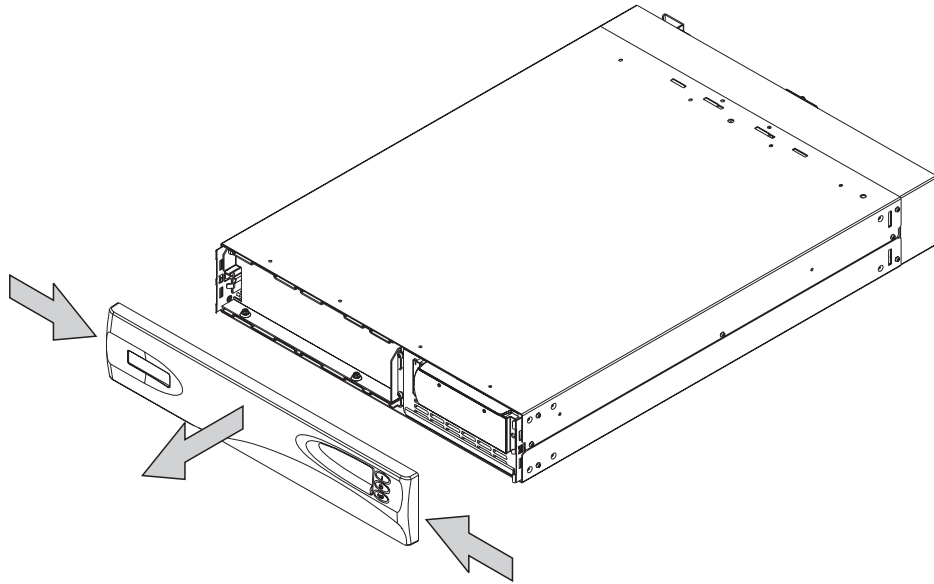

Figure 301. Removing the front panel of the 2145 uninterruptible power supply
3. Remove the front panel by pressing the sides inward and pulling both ends towards you, as shown in Figure 301 on page 626.